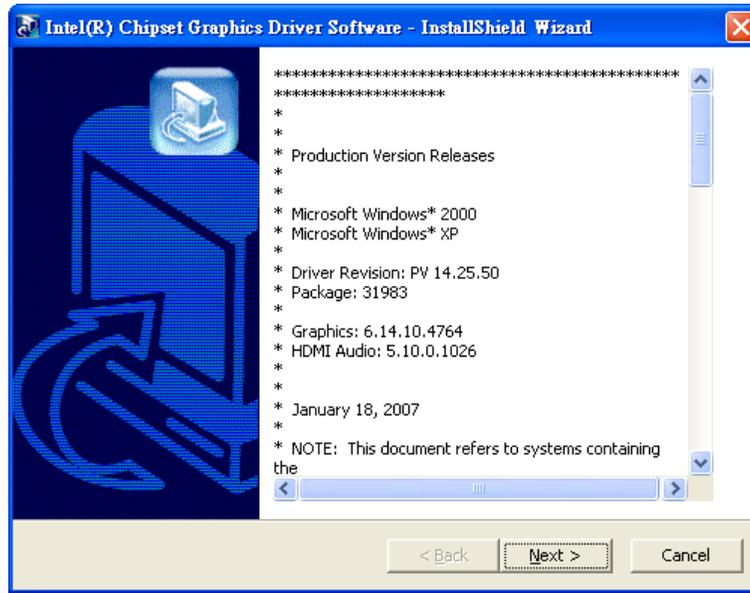

Figure 6-13: Intel® Graphics Media Accelerator InstallShield Wizard
Step 3: The Readme information file shown in **Figure 6-13** appears.